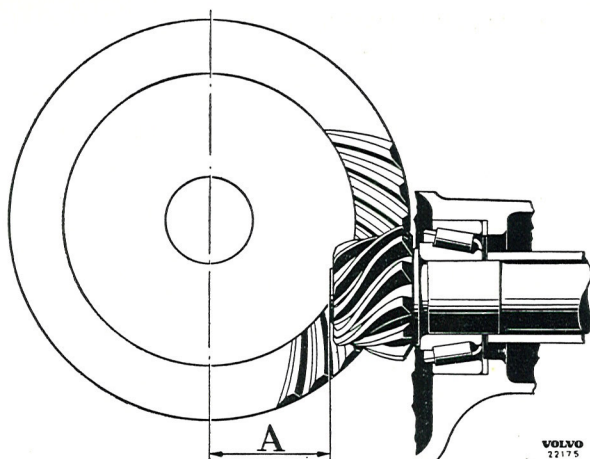
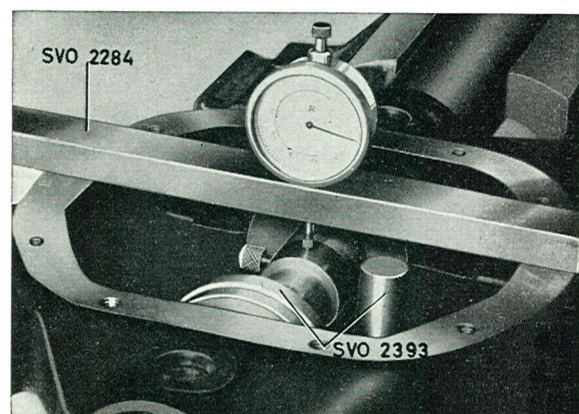
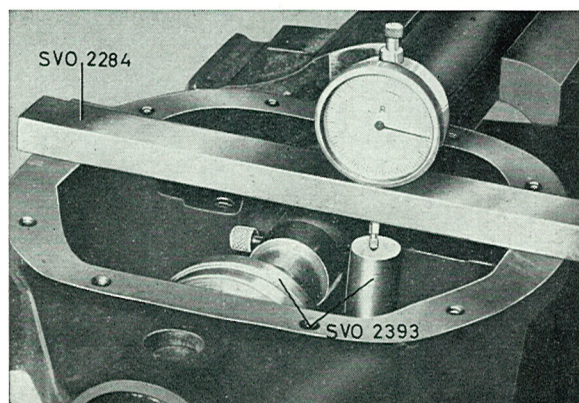

Fig. 4-106. Pinion location
Fig. 4-108. Zero-setting the indicator
Fig. 4-109. Measuring the pinion location
2. The pinion should have a certain nominal measurement (A, Fig. 4-106) to the centre line of the crown wheel. Due to tolerances in the manufacturing, there are deviations from the nominal measurement.
pinion and the adjusting jig in the differential bearing position as shown in Fig. 4-106. Place the indicator retainer on the drive pinion carrier and zero-set the gauge against the adjusting jig, see Fig. 4-108. Then move the indicator retainer over so that the indicator comes against the pinion gauges, see Fig. 4-109.